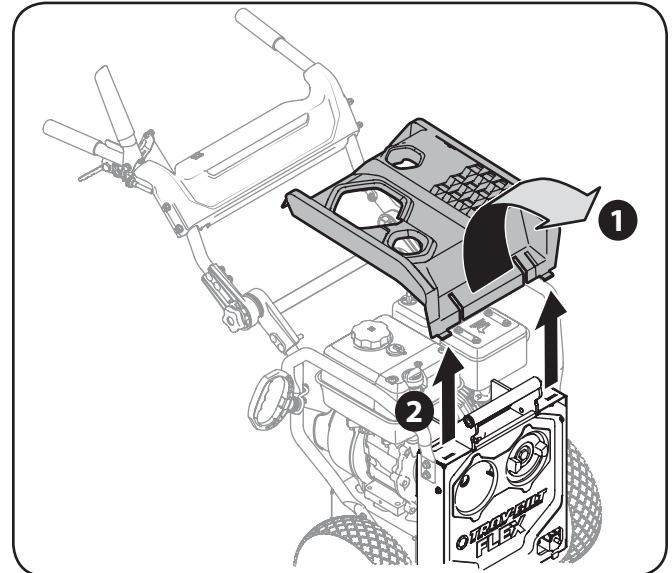

Figure 6-6
1. Using a Phillips head screw driver, remove the top engine cover by removing the two SEMS screws located on the rear of the cover. See Figure 6-6.
2. Pivot the cover forward(1) and lift up and away(2) from the power base, disengaging the two mounting tabs on the front of the engine cover. See Figure 6-6.